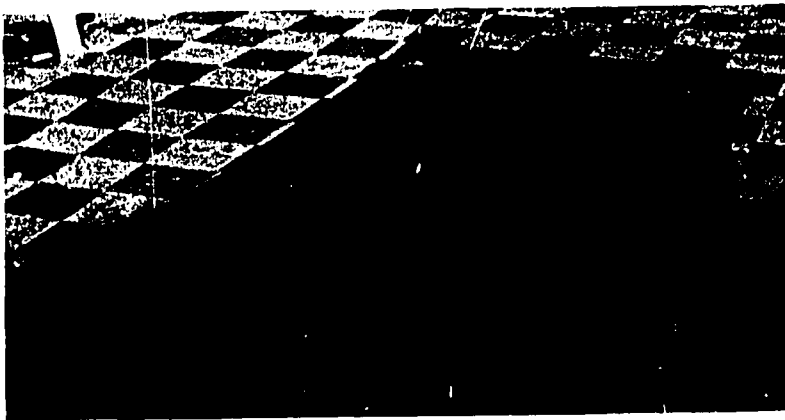

Fig. 17-4. Test Track
1. Using the equipment, demonstrate the procedure they are to follow. See Teacher's Guide Figs. 17-4 through 17-8.